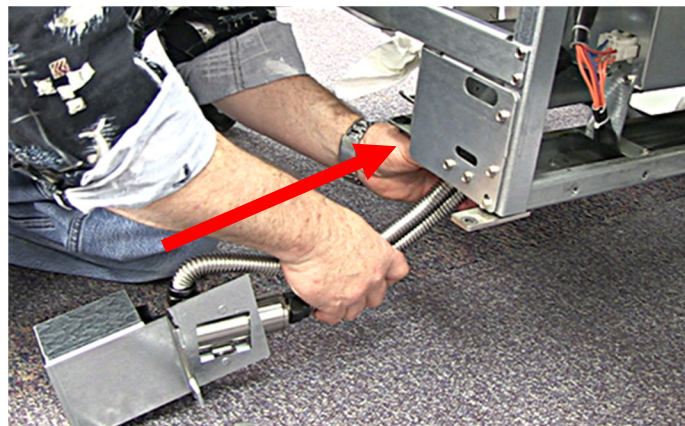

Figure 3
6. Guide the sensor assembly, flex line, and wires between base channel and right filter pan rail (see Figure 3).